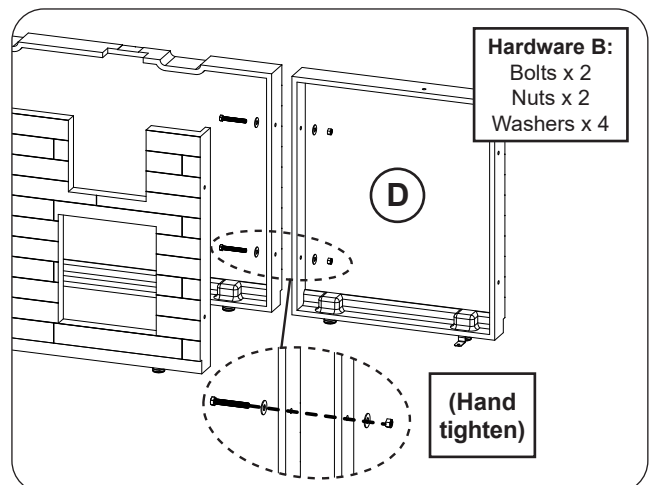

Fig. 11-4 Assemble rear wall
Orient the rear wall (D) as shown. Carefully align the pilot holes, and insert the hardware (hardware kit B) in the order shown. Hand tighten only. See Fig. 11-4.